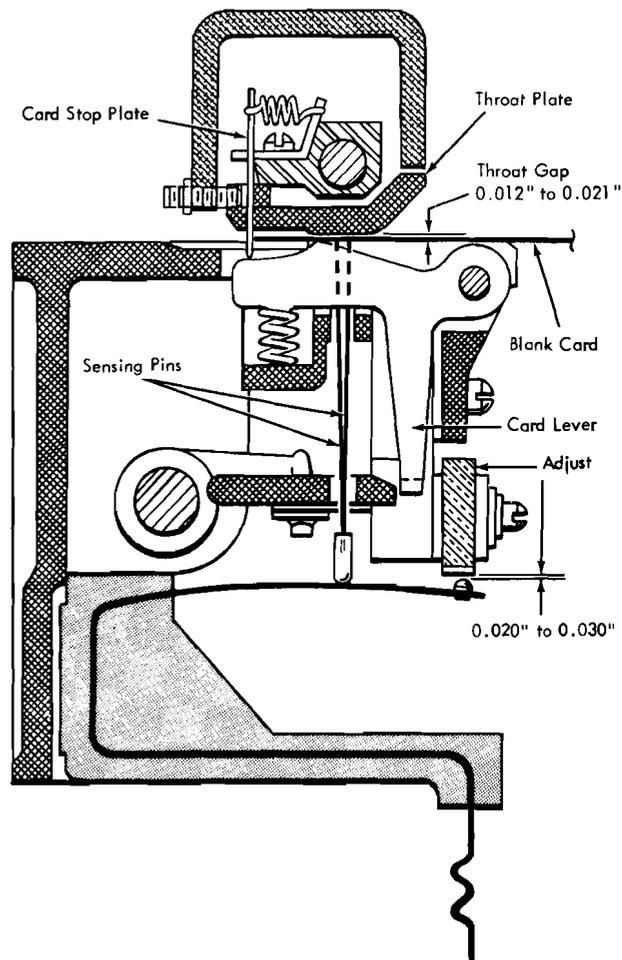

Figure 4-31. Pin Sensing Adjustment
2. Shim throat plate (bottom of eject unit) to adjust throat gap for 0.012-inch to 0.021-inch clearance (Figure 4-31). Check 0.012-inch clearance at closest point and 0.021-inch clearance at widest point. Replace throat plates worn beyond these dimensions. The 0.004-inch shim is part 121397, and the 0.010-inch shim is part 49901.
2. Remove contact cover and adjust common contact bar for minimum air gap of 0.020 inch and a maximum air gap of 0.030 inch (Figure 4-31).